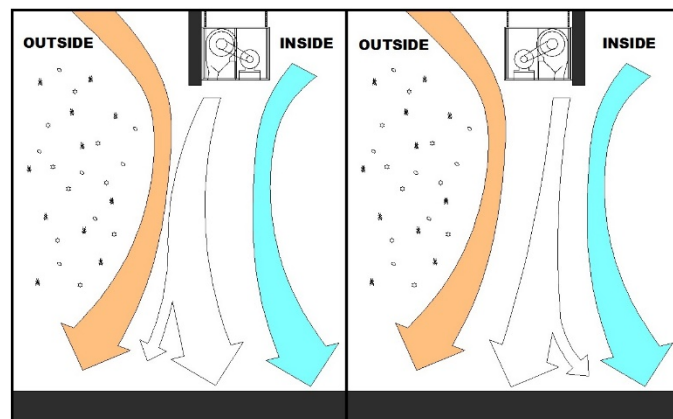

FIG. 3
- Regardless of whether the product is mounted on the inside or outside of the door opening, set the air directional vanes in the discharge nozzle slightly outward to approximately 10-15° towards the outside, or the wind load. (FIG. 3).